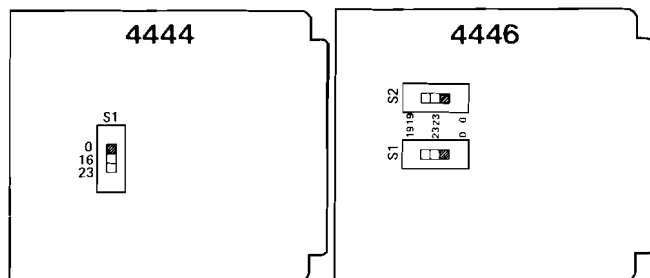

figure 2. Option switch locations
**3.05** The 4444 contains a single option switch, *S1*, that is used to select the insertion loss (0, 16, or 23dB) of all four ports simultaneously. The location of *S1* on the module's printed circuit board is shown in figure 2. Set *S1* to the 0 position for lossless (0dB insertion loss) bridging. Set *S1* to the 16 position to select 16dB insertion loss, as is required for interfacing with levels normally associated with resistive bridges. Set *S1* to the 23 position to select 23dB insertion loss, as is required for carrier-channel or other standard-level (+7/–16dB) 4wire interfacing. After *S1* is set, no further optioning or alignment of the 4444 is required.
**3.06** The 4446 contains two option switches, *S1* and *S2*. Locations of these switches on the module's printed circuit board are shown in figure 2. Switch *S1* is used to select the insertion loss (0, 19, or 23dB) of ports 1 through 4 simultaneously, and switch *S2* is used to select the insertion loss of ports 5 and 6 simultaneously. These switches are normally set for the same amount of insertion loss, although they may be set for different amounts if desired.